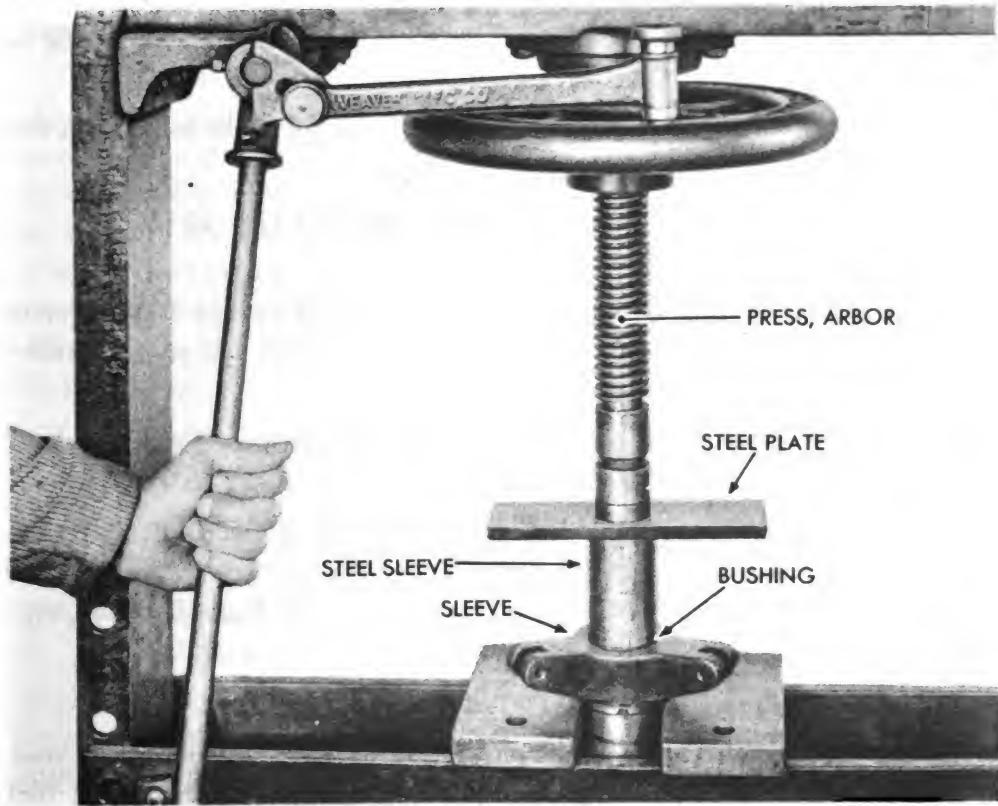

Figure 26 – Installing Bushing in Engine Clutch Sleeve
(6) PRESS BUSHINGS INTO SLEEVE (fig. 26).